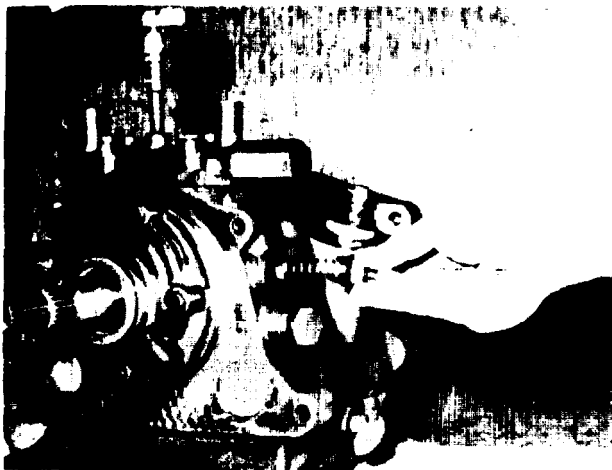

FIGURE 7-52.
7-62. Install a 300 PSI (21.1 kg/cm2) pressure gauge in the pipe fitting located on top and the front end of the transmission (see figure 7-52). With the engine turning approximately 1500 RPM, the pressure should read 150 PSI (10.5 kg/cm2) minimum. If there is less pressure, remove, clean and check the pressure regulator valves as follows:
a. Remove the upper regulator cap on the left hand side of the transmission near the front end of the case (see figure 7-52). Remove the spring, valve and guide pin (see figure 7-53). Thoroughly clean the valve port as well as the various parts of the valve. Set the parts of the upper regulator valve aside so that they will not be mixed up with other parts.